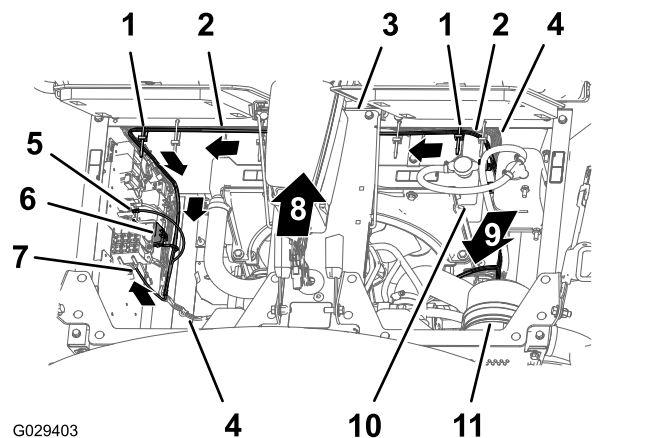

Figure 12
- Route the 197 cm (77-1/2 inch)—engine-compartment branch of the wire harness down along the left side of the radiator and across the bottom of the electrical panel (Figure 12).
- Secure the wire harness for the finishing kit to the wire harness for the machine with 2 cable ties as shown in Figure 12.